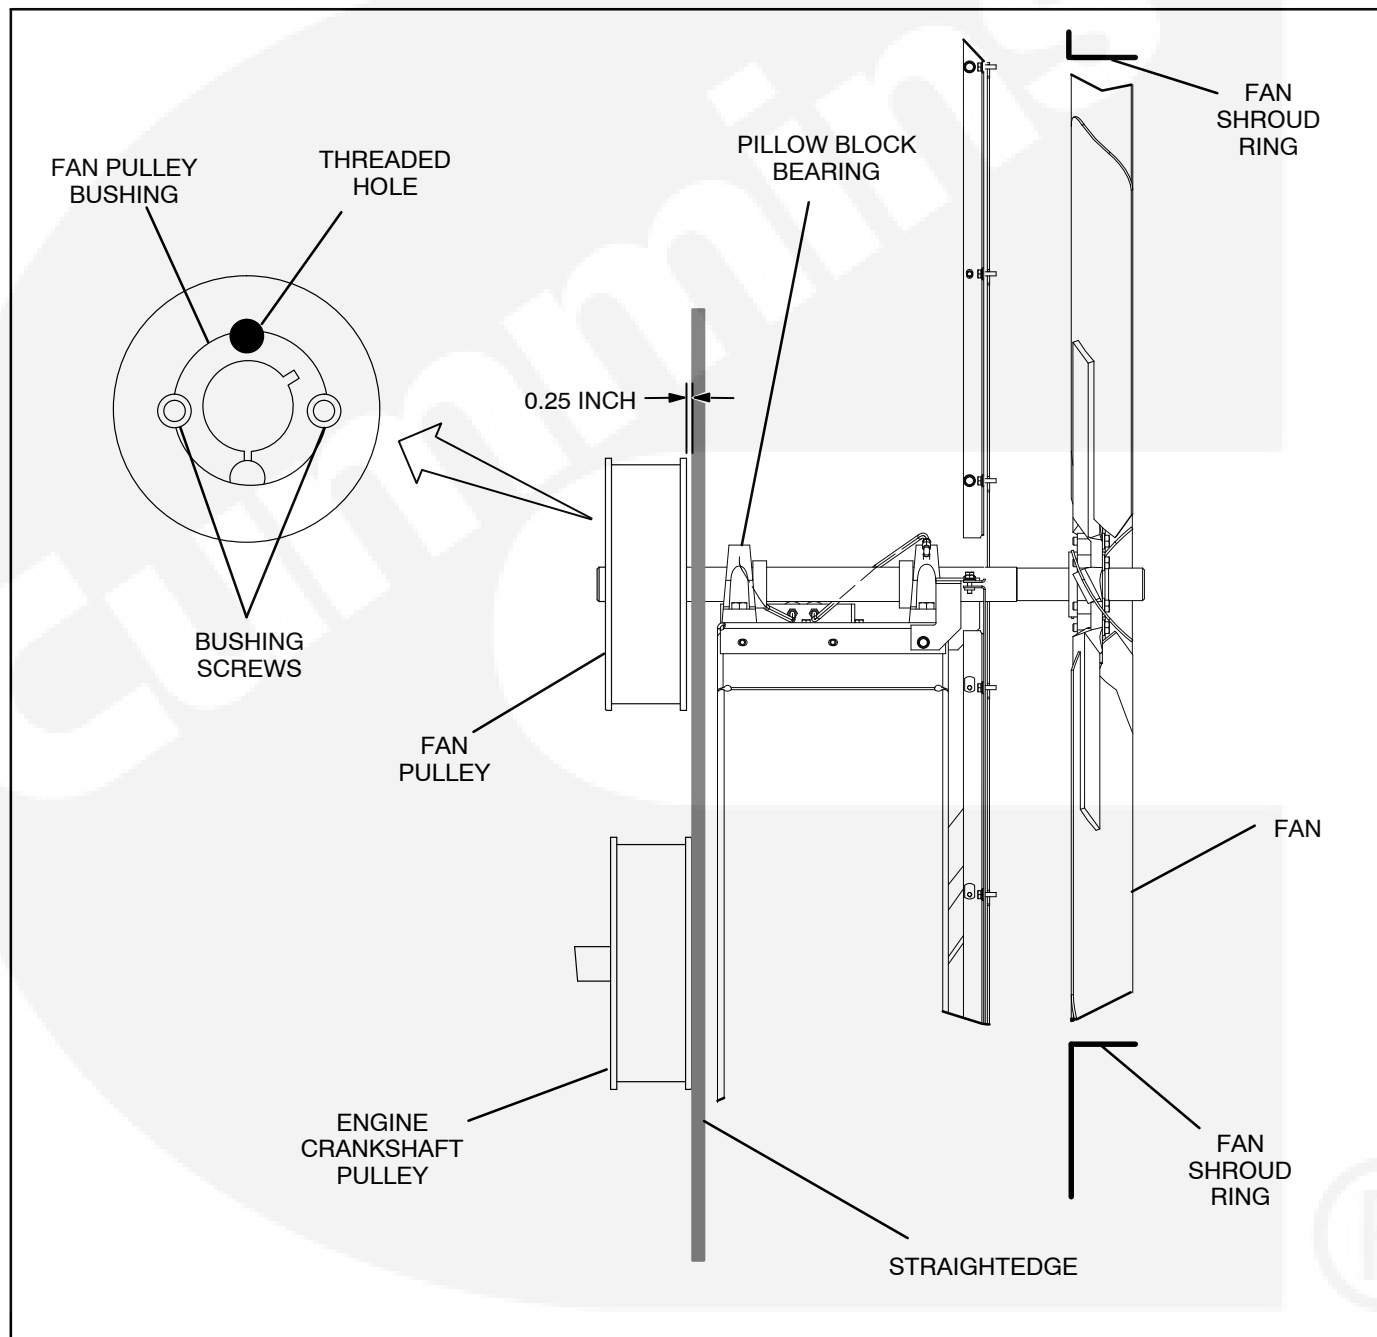

figure 11-2. fan drive pulley alignment
4. Check the alignment using a long straightedge (not supplied). The straightedge should be flat against the vertical surface of the engine pulley near the center. See Figure 11-2. The fan drive pulley should be 0.25" nominal toward engine from straight edge. If alignment is required, continue with step 5. If OK, continue with step 8.
- C. Remove the two screws from the fan pulley bushing. Install one of these screws into the threaded hole located between the two screws that were removed. (Figure 11-2). Tighten the screw to separate bushing from pulley and remove the screw.